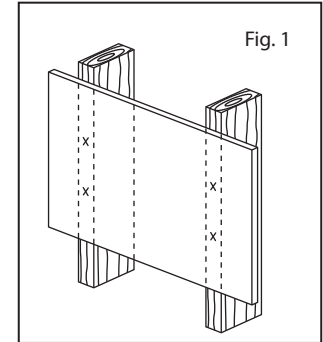

Fig. 1
- 3** While another person holds the wall plate in position, mark four locations (two per stud) for securing the mount to the wall (see Fig. 1).